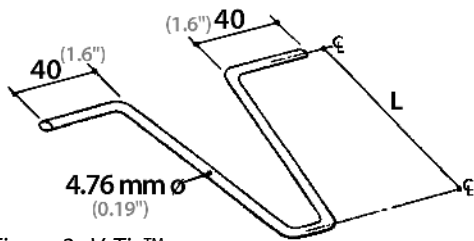

Figure 2 V-Tie™
The Stud Shear™ Connector can accommodate a range of insulation thicknesses from 0 to 100 mm (0 to 4"), and air space widths of 25 mm (1") and greater. The Flat-Plate has sufficient length to accommodate the thickness of the cavity insulation, and further extends 18 mm (0.7") into the air space to expose its leading edge and facilitate in-situ placement of the V-Tie™ and Insulation Support. The V-Tie™ is inserted through the appropriate hole along the leading edge of the Flat-Plate, and placed coincident with a mortar bed joint so as to extend horizontally and normal to the stud framing, thereby maintaining design tie capacity. The legs of the V-Tie™ are positioned along the centreline of the exterior masonry wythe within the placement tolerances permitted by the building code having jurisdiction. Adjustment normal to the wall is facilitated by on-site selection of an appropriate length (L) of V-Tie™ (see *Figure 2*).
V-Tie™: The V-Tie™ (Figure 2) is manufactured from 4.76 mm (0.19") diameter wire and is available in both hot-dip galvanized finish and stainless steel. The weight of the hot-dip galvanized finish is not less than 460 g/m² (1.5 oz/ft²) and satisfies the requirements of CSA A370 (which references ASTM A123), ACI 530.1/ASCE 6/TMS 602 (which references ASTM A153, 458 g/m²) and the International Building Code (IBC) (which reference ASTM A153, Class B, 458 g/m²).